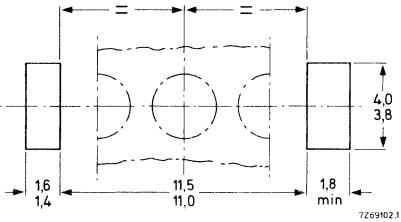

Fig. 1 Heatsink requirements.
2. Push the short end of the clip into the narrow slot in the heatsink with the clip at an angle of 10° to 30° to the vertical (see Figs 1 and 2).